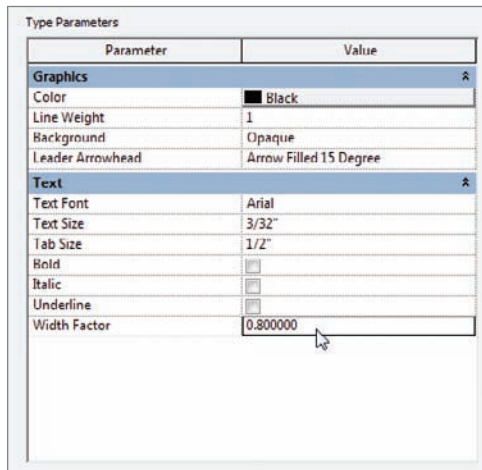

FIGURE 23.15 Changing the text
7. Change Width Factor to .800000 (see Figure 23.15).